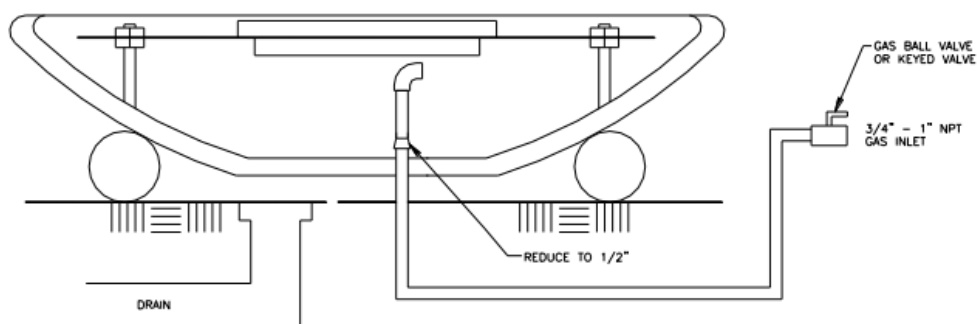
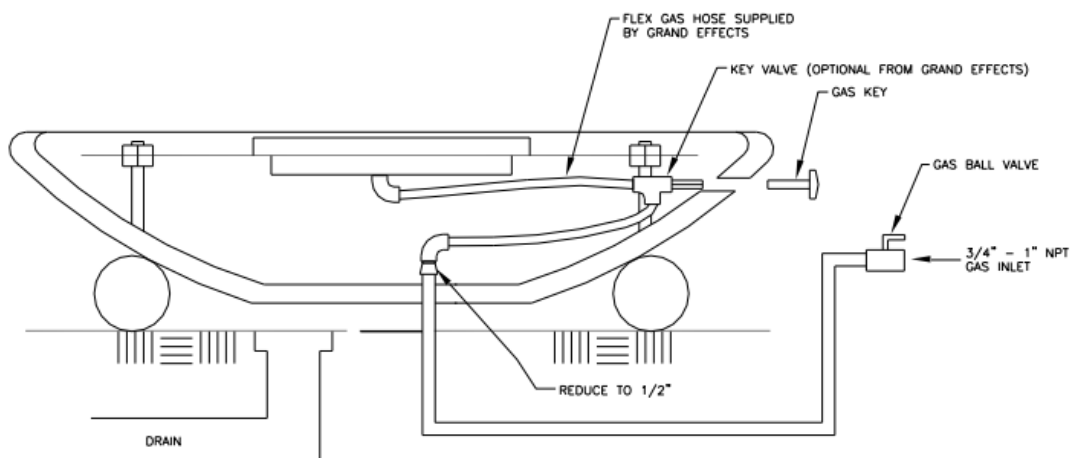

Figure 1: Fire Pit with External Key/Ball Gas Valve
Figure 2: Fire Pit with Internal Key Valve
1. Install the following Grand Effects Fire Pit (42" - 60" Biltmore) as shown in Figure 1 or Figure 2.
4. The gas piping must be installed underground between each bowl, as shown in Figure 1.
5. The piping must be reduced to 1/2" NPT or larger at each bowl, as shown in Figure 2.
1. The height of the flame can be adjusted at each burner by opening or closing the 1/2" gas valve or keyed valve as shown in Figure 2.
Frequently inspect the gap between the base of the bowl and the mounting bracket. It should be kept free of dirt and debris that may restrict cooling air and drainage (see Figure 2).